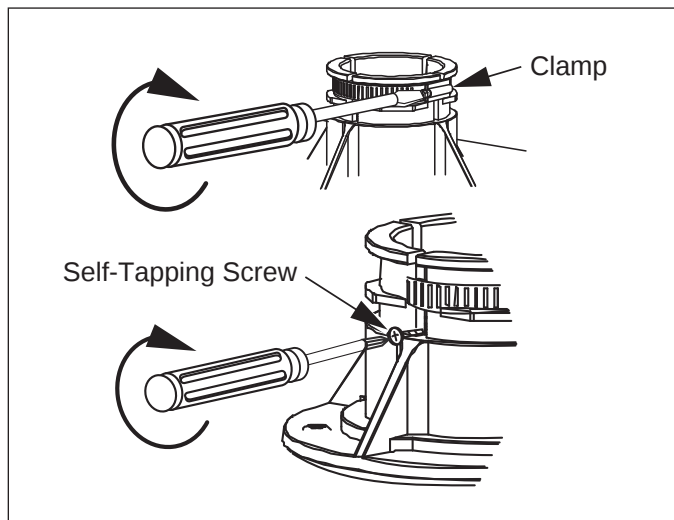

Figure 15 - Secure Venting
- Use a Phillips screwdriver to tighten the clamps (Figure 15).
- Use the specified self-tapping screws to secure the venting to the intake and exhaust ports (Figure 15).